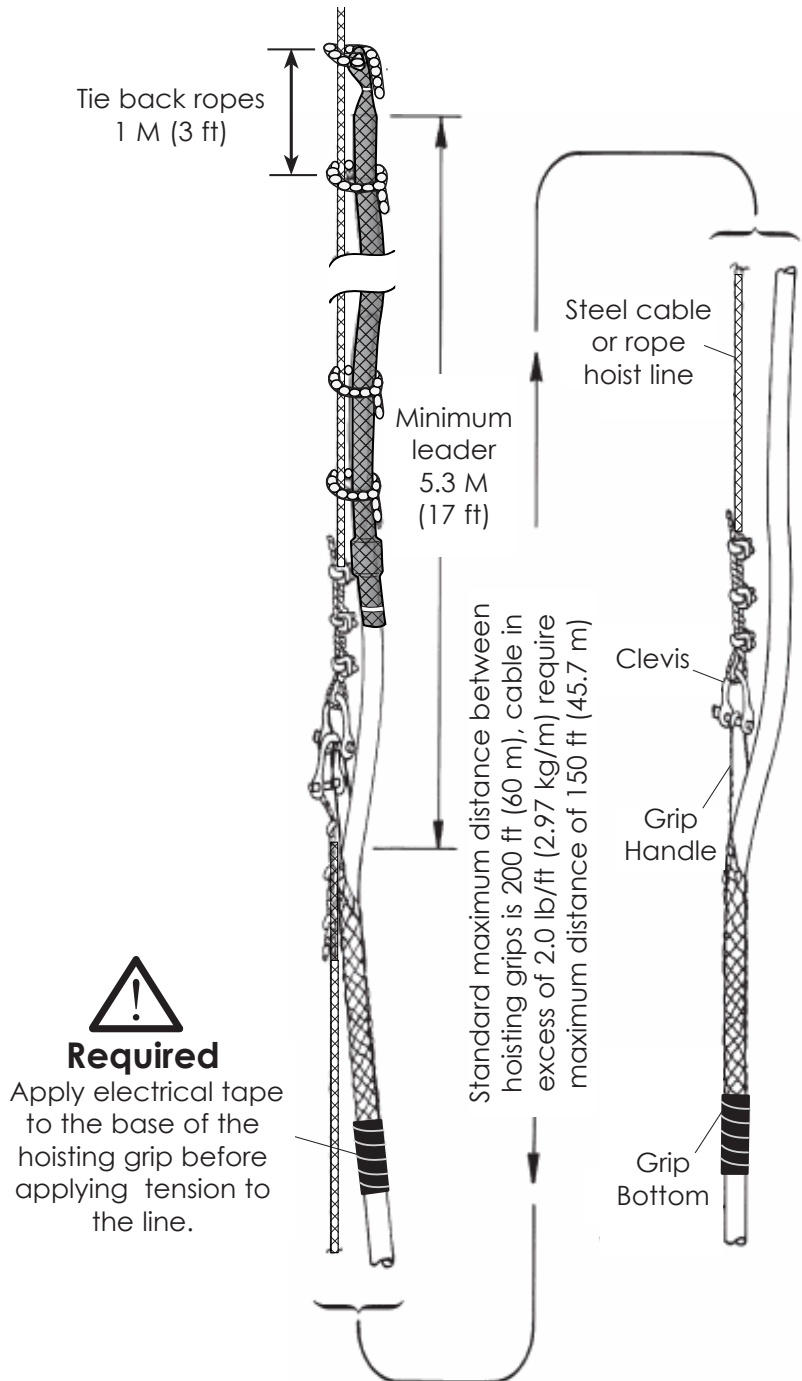

Figure 1
Place the Hoisting/Support grip(s) at the proper location on the cable as shown in Figure 1. Allow a sufficient length of cable leader to reach the junction point input when cable hoisting and attachment of the grip handle to the support structure is completed.
**7** Attach the hoist line to the grip as shown in Figure 1. Tie the cable leader to the hoist line so that the leader does not dangle. Apply tension slowly to the hoist line to allow the hoisting grip to tighten uniformly on the cable.
- 6a** Attach the hoist line to the grip as shown in Figure 1. Tie the cable leader to the hoist line so that the leader does not dangle. Apply tension slowly to the hoist line to allow the hoisting grip to tighten uniformly on the cable.